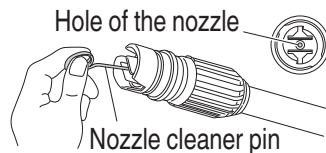

Fig. 24
1. Inspecting the washer and hoses (Fig. 24)